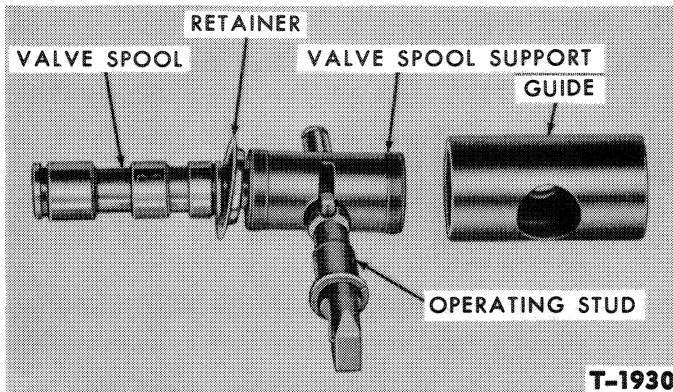

Figure 13—Control Valve Guide and Operating Stud
- Remove the valve end operating stud and dust cap, Figure 13.
- Remove the guide from the valve spool support, Figure 13.